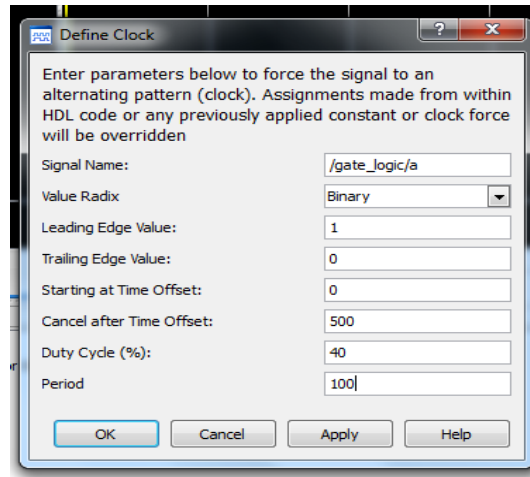

Figure 6: Force the Signal- Enter Parameter
- Enter the following parameter (**figure 6**). Click on apply and OK.
Similarly, Right click on the input port “b” (**figure 6**), select the Force clock and set the parameter.